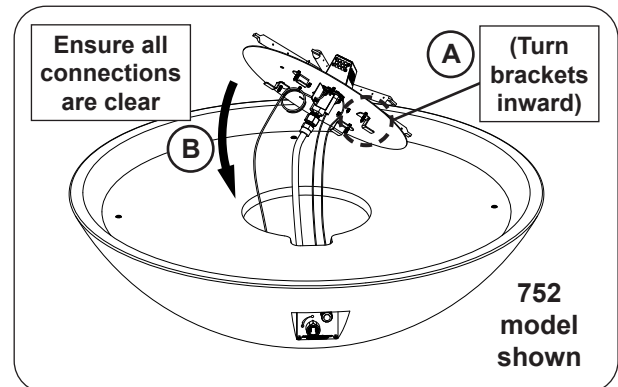

Fig. 34-2 Insert burner assembly (if applicable)
1. Ensure that the four burner brackets are turned inward, then insert the burner assembly (see Fig. 34-2, A-B).